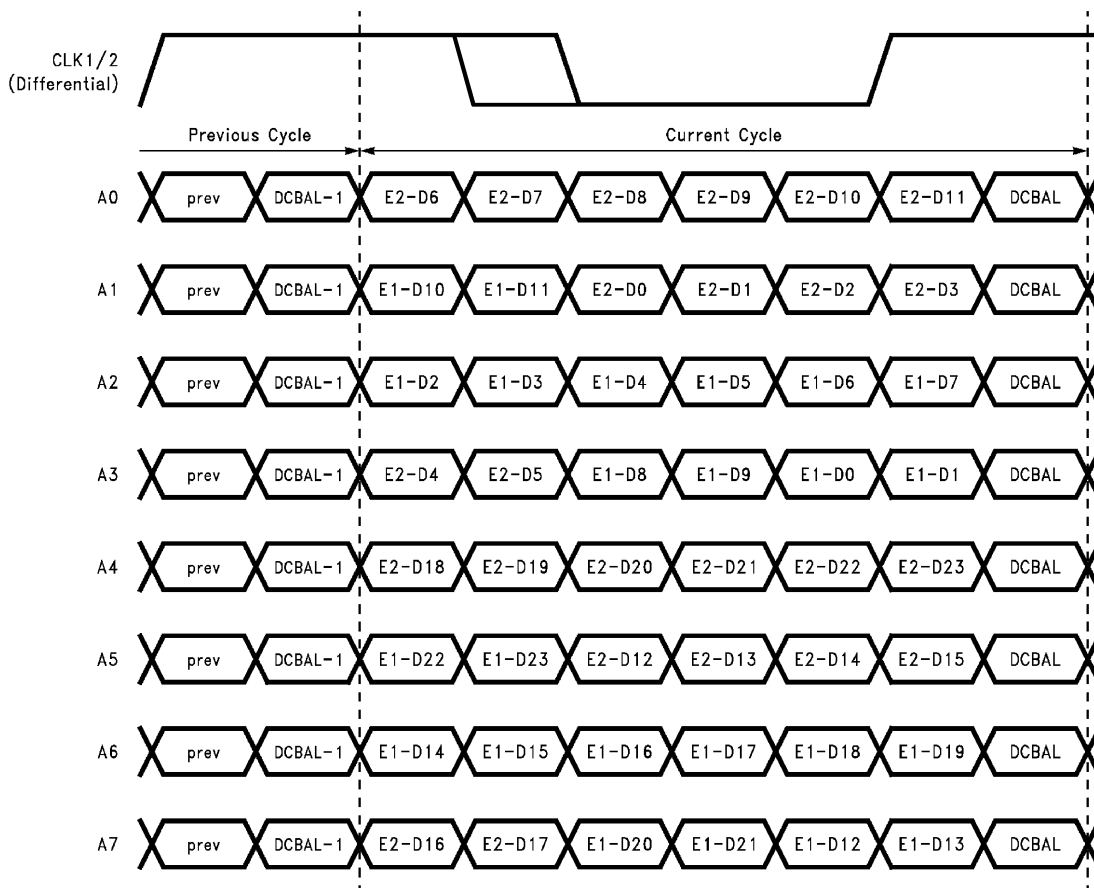

Figure 19. 48 Parallel TTL Data Inputs Mapped to LVDS Outputs DC Balanced Mode (Data Enabled, BAL=High, A0 to A3 for Port1, A4 to A7 for Port2)
2. DC Balance: In the balanced operating modes, in addition to pixel and control information an additional bit is transmitted on every LVDS data signal line during each cycle of active data as shown in Figure 19. This bit is the DC balance bit (DCBAL). The purpose of the DC Balance bit is to minimize the short- and long-term DC bias on the signal lines. This is achieved by selectively sending the pixel data either unmodified or inverted.